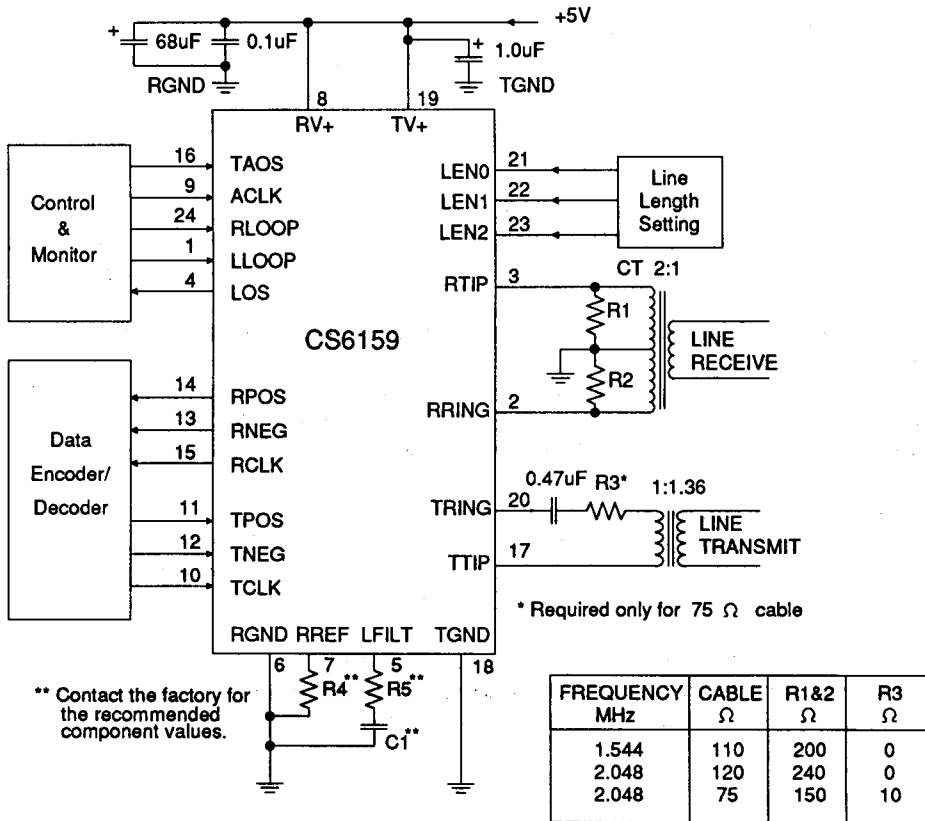

Figure A1: Typical Connection Diagram
* When configured with a 0.47 uF nonpolarized capacitor in series with the Tx transformer primary as shown in Figure A1.
The AMI receive signal is input to these pins. A center-tapped, center-grounded, 2:1, step-up transformer is required on these inputs, as shown in Figure A1 in the *Applications* section. Data and clock are recovered and output on RPOS/RNEG and RCLK
The AMI signal is driven to the line through these pins. This output is designed to drive a 54 Ω load. A 1.36:1 step-up transformer is required as shown in Figure A1. When driving 75 Ω coax cable, a 10 Ω resistor should be added as shown in Figure A1. The transmitter will drive twisted-shielded pair cable, terminated with 100 Ω or 120 Ω , without additional components.
Figure A1 shows the typical application configuration for the CS6159. For T1 applications, the receiver transformer is center-tapped and center-grounded with 200 Ω resistors between the center tap and each leg on the CS6159 side. These resistors provide the 100 Ω termination for the T1 line.
Figure A1 shows a 0.47 μF capacitor in series with the transmit transformer primary. This capacitor is needed to prevent any buildup in the